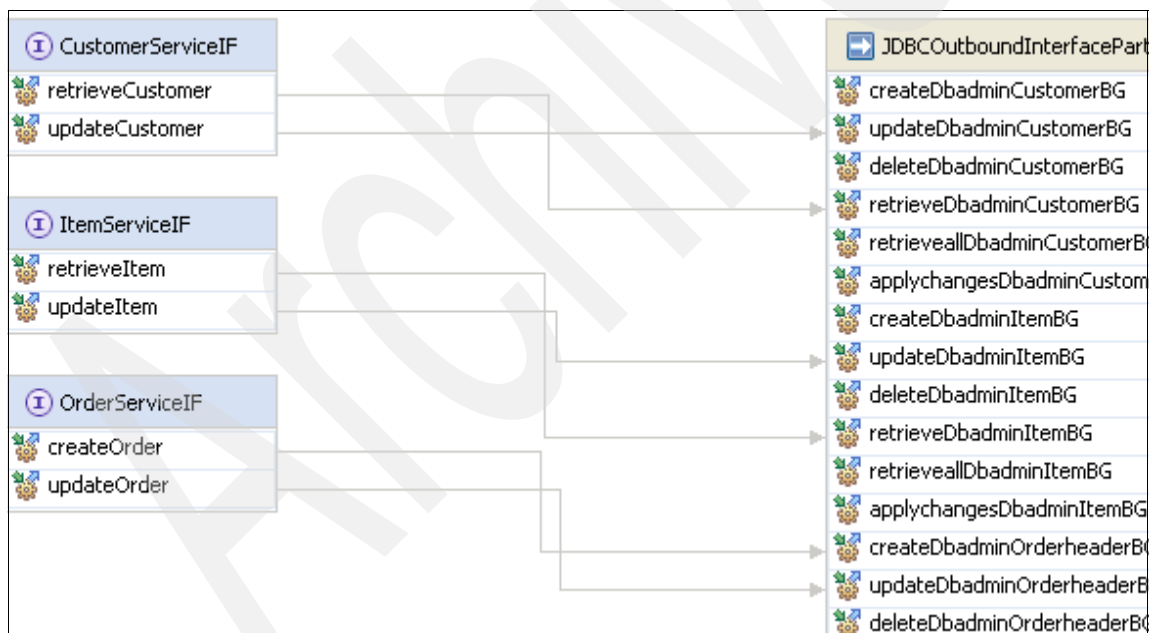

Figure 5-46 Operation connections
2. Next connect all OrderManagement operations with the appropriate JDBCOutput adapter operations in the Operations connections section as shown in Figure 5-46.